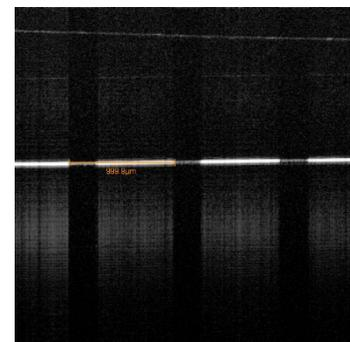

Figure 4
1. Move the ruler on the role of tape so that the metric edge is visible under the scanner. The ruler must be flat (Figure 4).